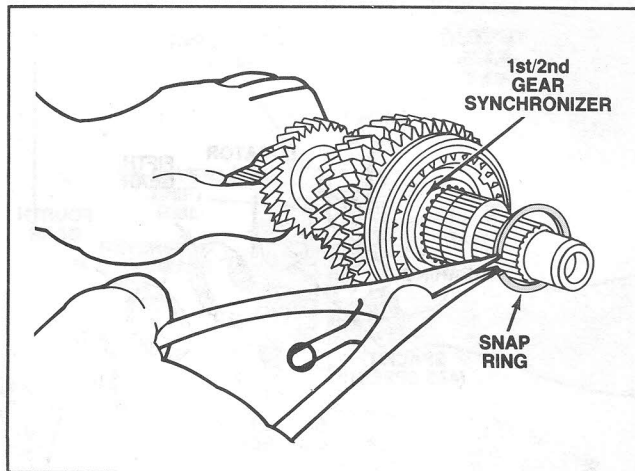

Figure 69 Snap Ring Removal
9. Remove the first/second gear synchronizer snap ring. (Figure 69).